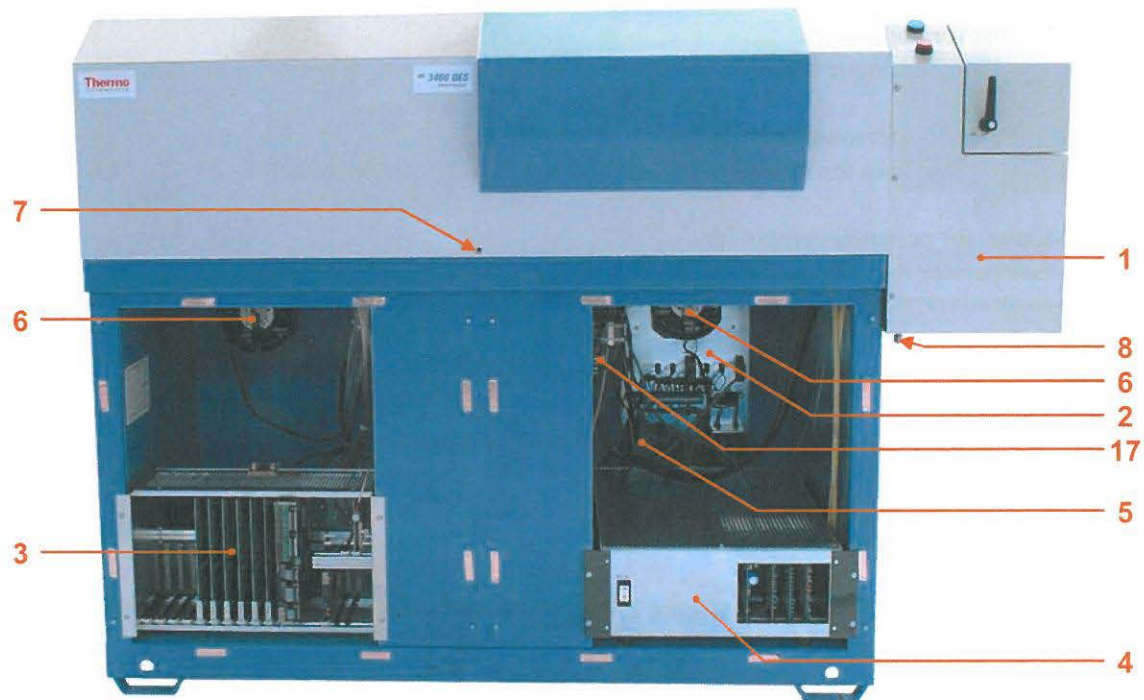

Figure 2.3
Figures 2.3 to 2.6 show the different units and sub-assemblies that make up the instrument. Certain of these sub-assemblies are described in further detail in the following paragraphs.
Key to figures 2.3 and 2.4:
C : Behind the filters (on the inside) is a fan (F!) (figure 2.3, pos. 6).
C : If the lid must be open (e.g. for maintenance purpose), the blocking screw (figure 2.3, pos. 7) must be sufficiently unscrewed. The safety will open and the lid can be lifted. The access to inside components is therefore without danger for the operator.